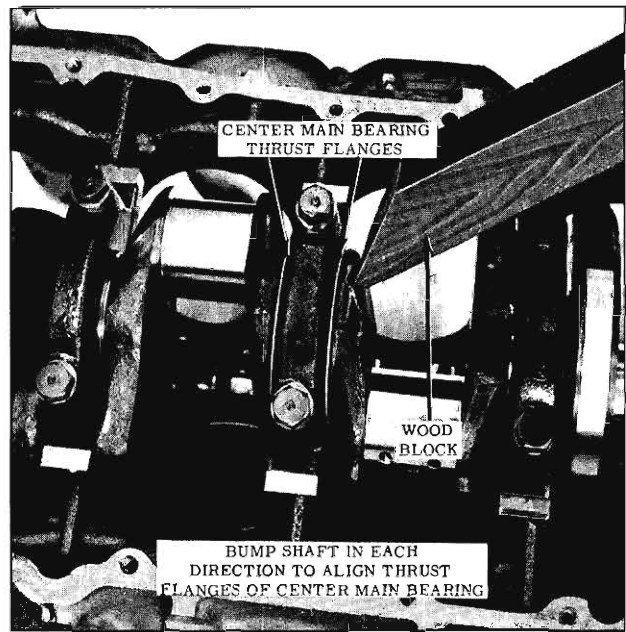

Fig. 3-451 Aligning Center Main Bearing Flanges
4. With a block of wood (Fig. 3-451) bump shaft in each direction to align thrust flanges of center main bearing.